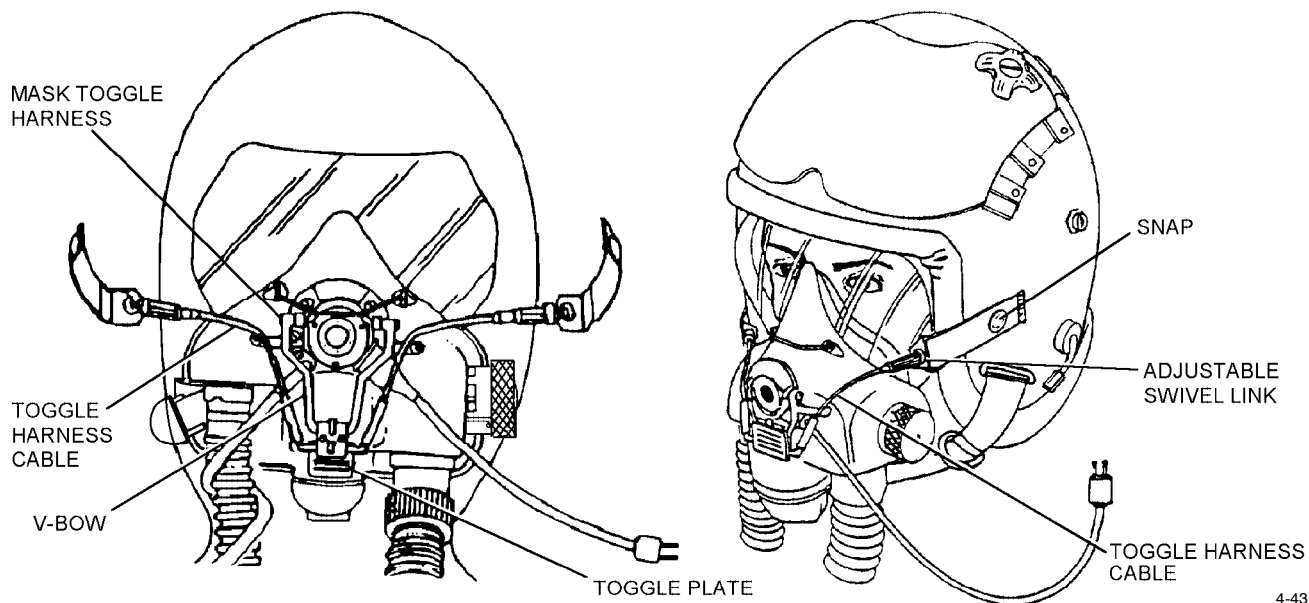

Figure 4-43. Toggle Harness Connection.
10. Subject shall connect toggle harness assembly to helmet as shown in figure 4-43.
11. Flip the V-bow down into flight position, and adjust toggle harness assembly (figure 4-43).